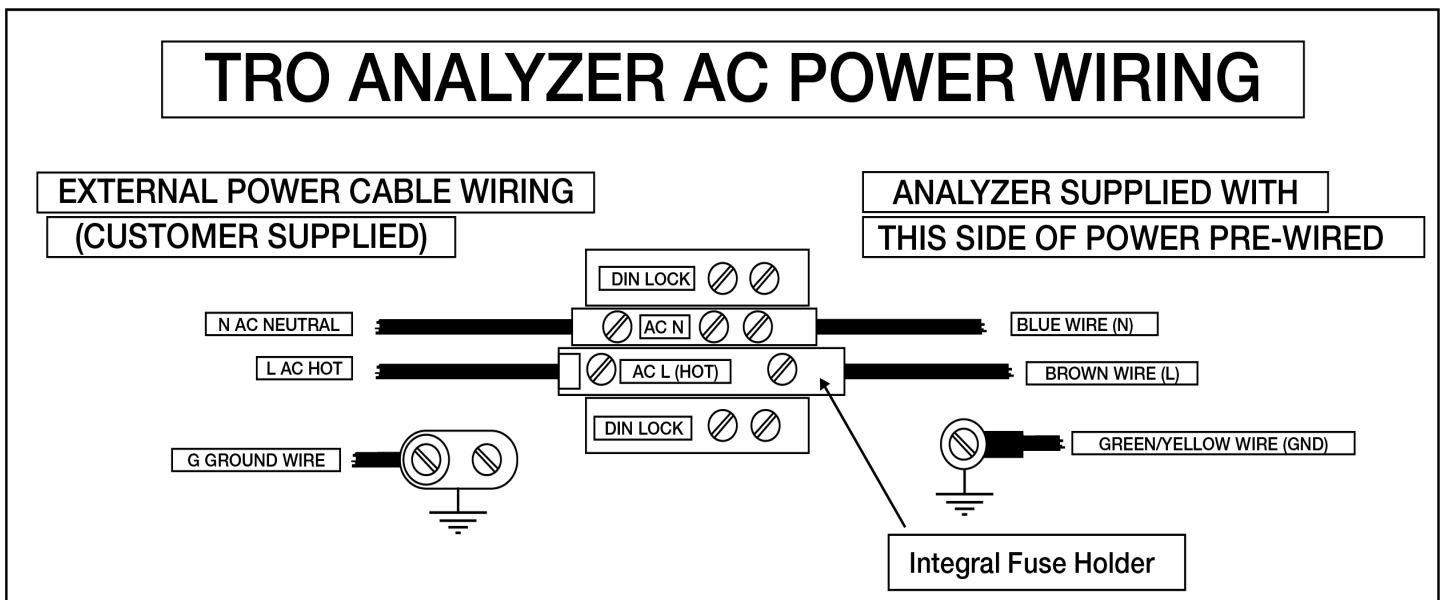
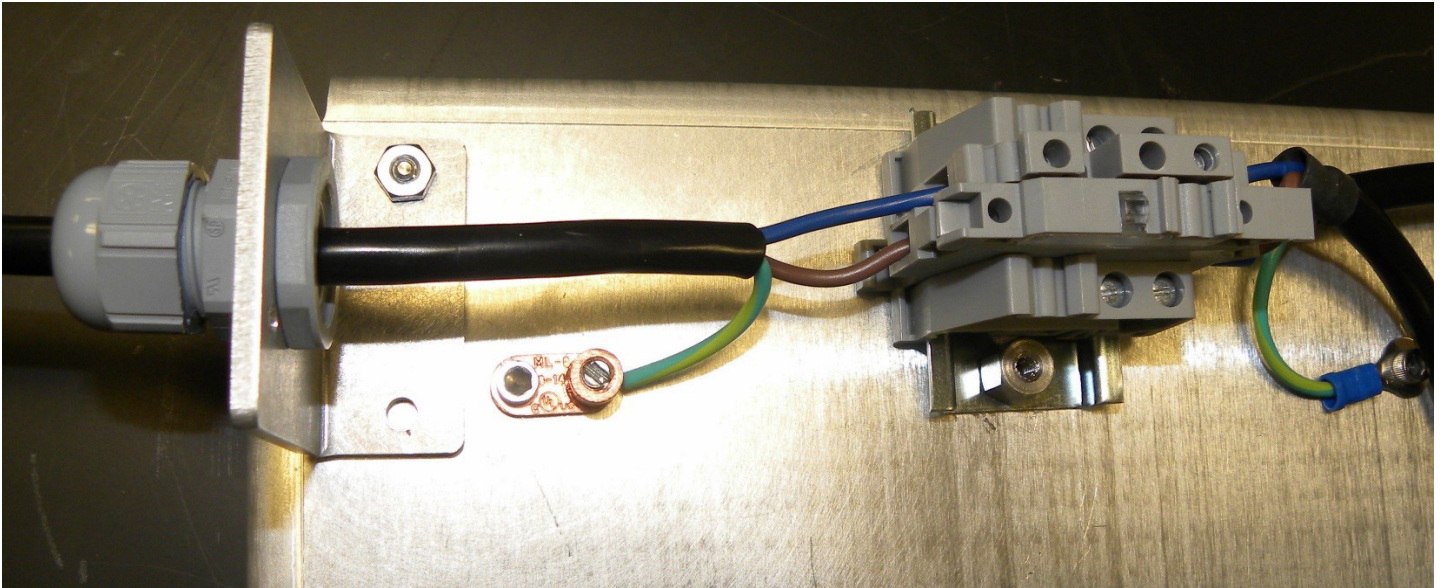
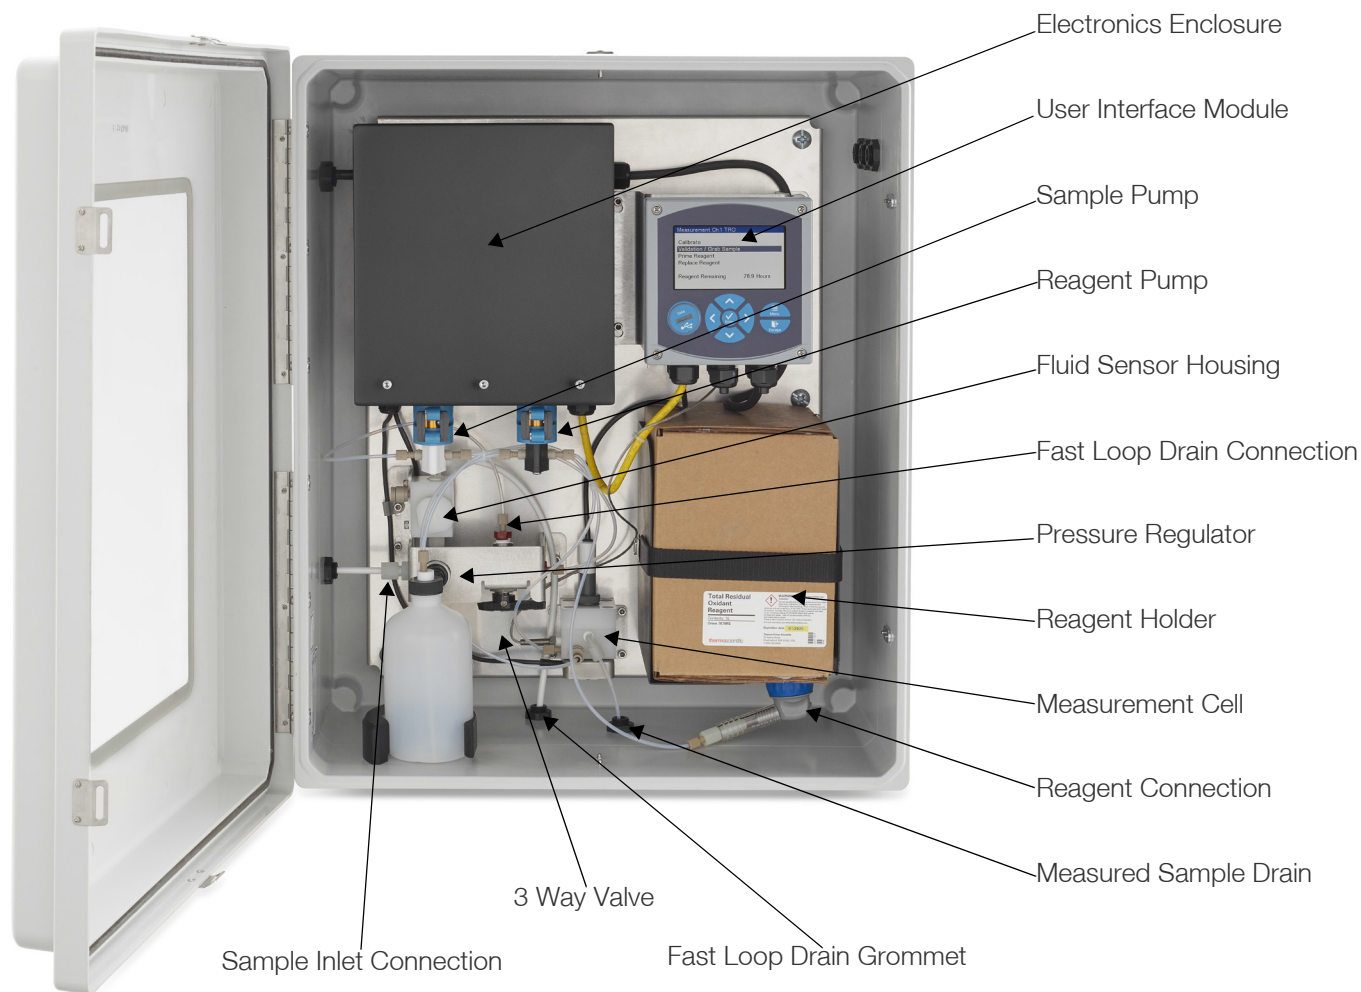

Figure 6. TRO Analyzer AC Power Wiring
Figure 7. Terminal Block Interconnections
Figure 8. Analyzer Description
WARNING: Refer to **Figure 6** for details of the power wiring connections before Connecting Power to the Orion 7070iX TRO Analyzer.
Remove the Electronics Enclosure cover (**Refer to Figure 8**). Locate and remove the AC Power Safety cover to access the AC Power Terminal block (**refer to Figure 6**). Do not disturb the factory installed wiring on the right side of the AC Power Terminal block.
Locate the AC Power Terminal block. (Mounted on the DIN Rail - Refer to **Figure 6** & **Figure 7**). Insert the Line/AC HOT wire into the terminal labeled L AC HOT. This is the terminal with the internal fuse. (The terminal may need to be opened by turning the terminal screw counter clockwise before inserting the wire into the terminal). Tighten the locking screw for this terminal and check that the wire is firmly connected to the terminal block.
Insure that the wire loop on the ground wire is longer than the Neutral and Hot wire loops (**refer to Figure 6**).
- Power supply – Refer to **Figure 6**.